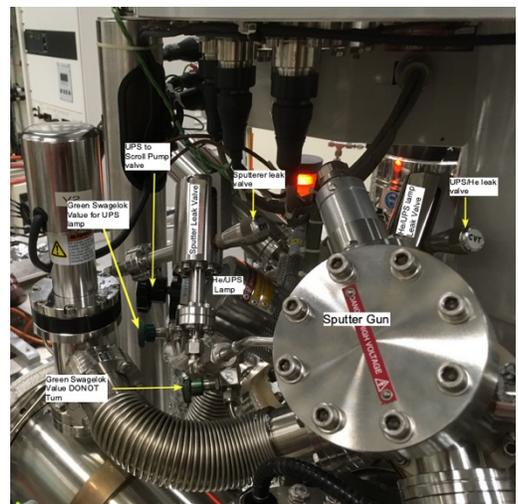

Figure 2 View of UPS/He lamp and Sputterer. Note two green swagelok valves, leak valves, and valve to scroll pump.
- 5) Open the green Swagelok valve, Figure 2. Turn it 1 full counterclockwise rotation. Be sure to turn the valve that is connected to the leak valve for the UPS lamp. *There is the other green valve to the right of the correct valve marked with red tape that should **NOT** be turned, Figure 2.*
- 6) Slowly and carefully, open the leak valve on the UPS lamp, Figure 2. This allows He(g) to flow into the SAC via the UPS lamp. The leak valve needs to be turned approximately 1.5 rotations **ccw**. After 1 full turn, **SLOWLY** turn the knob while monitoring the pressure until the STC reads $\sim 2 \times 10^{-8}$ Torr and the SAC reads $\sim 1 \times 10^{-8}$ Torr.
- 7) Open the UPS-to-scroll differential pumping valve located to the left of the UPS lamp housing, Figure 2. Hold the valve base while opening to maintain the UPS alignment. Turn the valve fully counterclockwise until it stops. The chamber pressures should lower after the valve is opened.